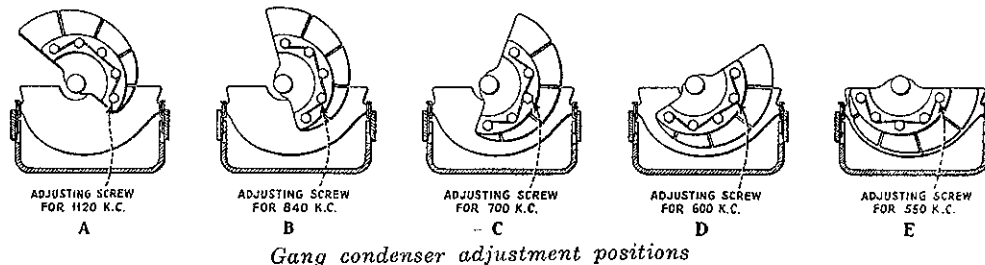

Figure 11
2. Place the receiver in operation and couple the oscillator to the antenna lead of the set. Turn the station selector knob until the first vanes of the gang condenser full mesh with the stator plates and the next set is free. This is shown in Figure 11-A. Now turn the screws on all the parallel trimming condensers until they are at their minimum capacity position.